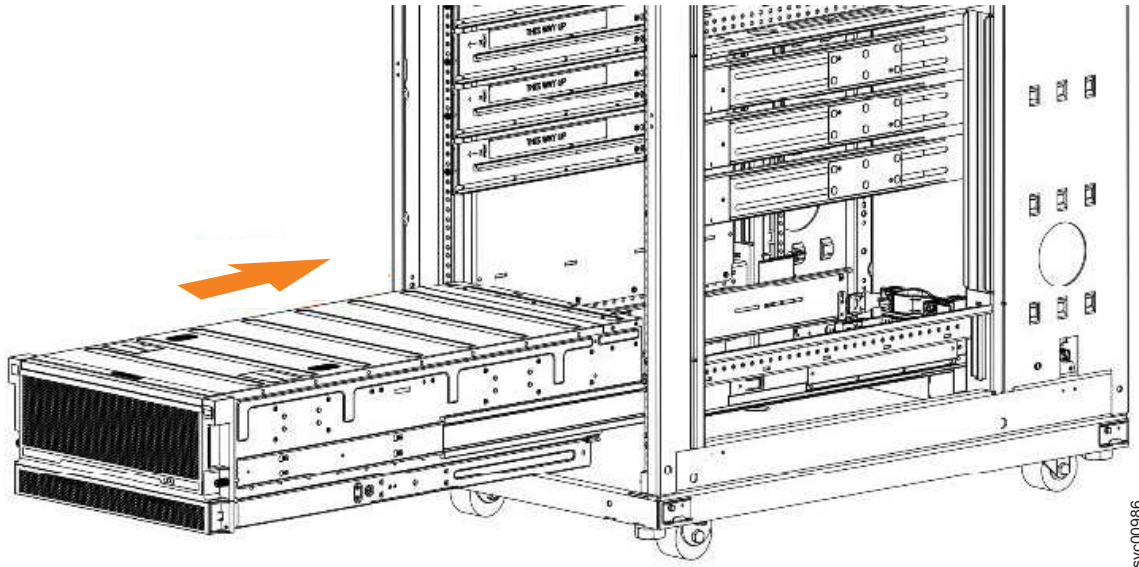

Figure 95. Example installation of the enclosure in the rack
- Install the expansion enclosure in the lowest position in the rack. Figure 95 on page 236 shows an example.